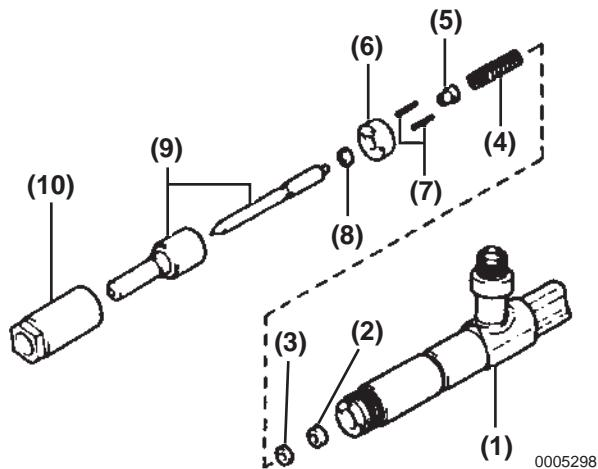
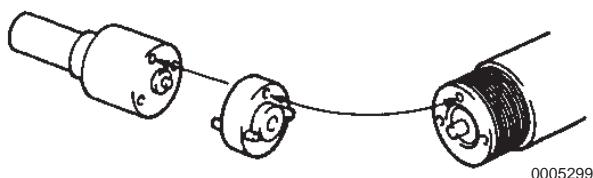

Figure 6-36
Figure 6-37
1. Assemble the nozzle assembly as shown in **Figure 6-36**. **NOTICE: Exclude the No. 1 pressure spring and pressure pin. Align the holes of the nozzle body, tip packing and nozzle holder body (Figure 6-37).**